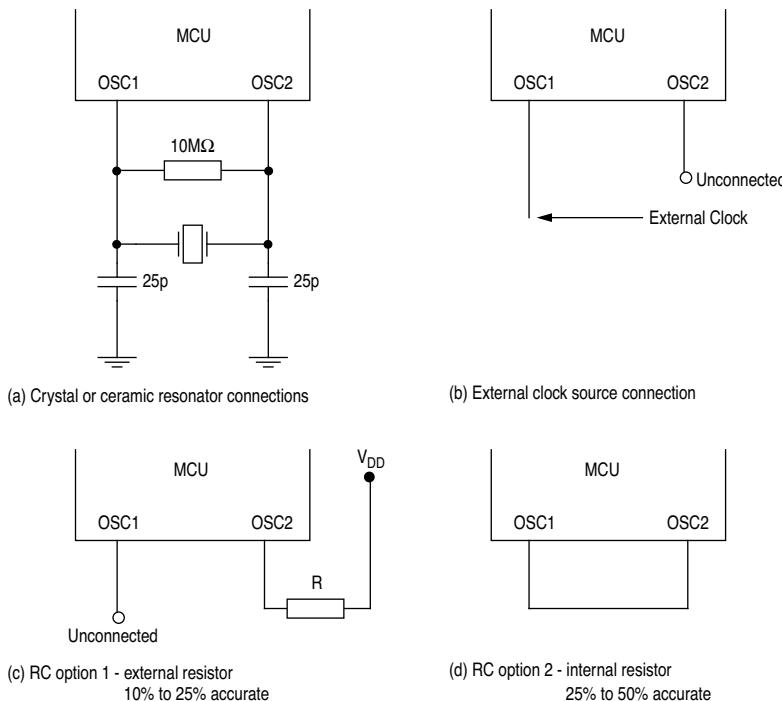

Figure 2-1 Oscillator Connections
- 1) A crystal or ceramic resonator as shown in Figure 2-1(a).
- 2) An external clock signal as shown in Figure 2-1(b).
- 3) RC options as shown in Figure 2-1(c) and Figure 2-1(d).
The circuit in Figure 2-1(a) shows a typical oscillator circuit for an AT-cut, parallel resonant crystal. The crystal manufacturer's recommendations should be followed, as the crystal parameters determine the external component values required to provide maximum stability and reliable start-up. The load capacitance values used in the oscillator circuit design should include all stray capacitances. The crystal and components should be mounted as close as possible to the pins for start-up stabilization and to minimize output distortion. An external start-up resistor of approximately $10M\Omega$ is needed between OSC1 and OSC2 for the crystal type oscillator.
An external clock from another CMOS-compatible device can be connected to the OSC1 input, with the OSC2 input not connected, as shown in Figure 2-1(b).